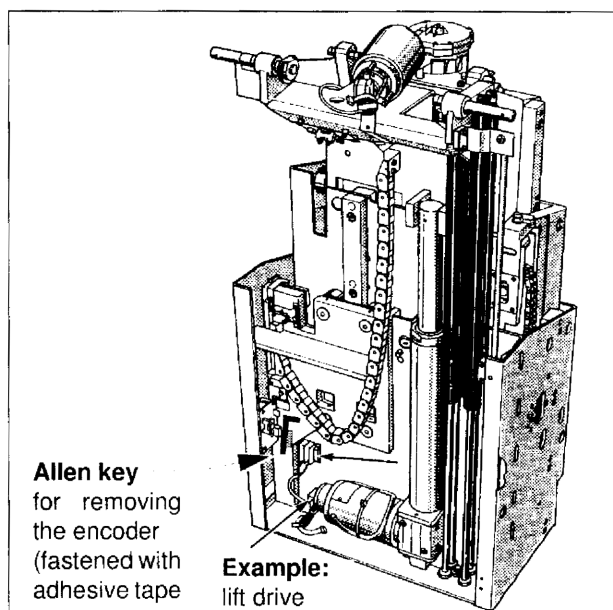
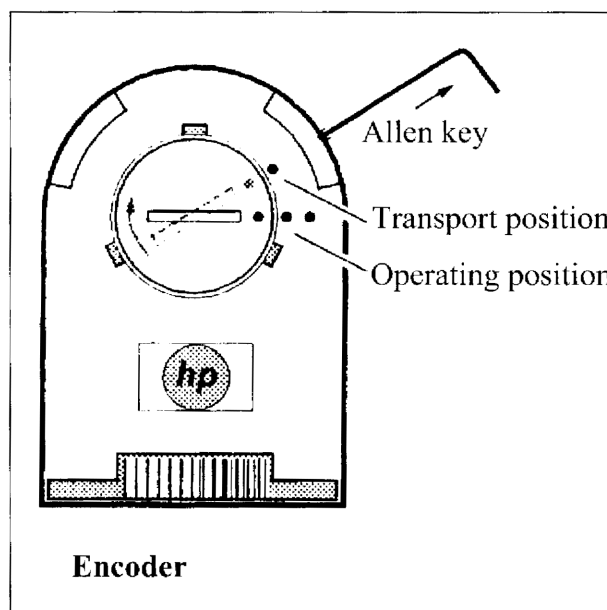

Fig. 1
Fig. 2
- Loosen the cable of the defective encoder (Fig. 1 as example of the lift drive).
- Using the Allen key fastened in the lifting base with adhesive tape (Fig. 1), unscrew the coding disk (Fig. 2) and pull it off the drive shaft.
- Tighten the coding disk with the inserted Allen key (Fig. 2).
- Turn the encoder to the OPERATING position (Fig. 2).